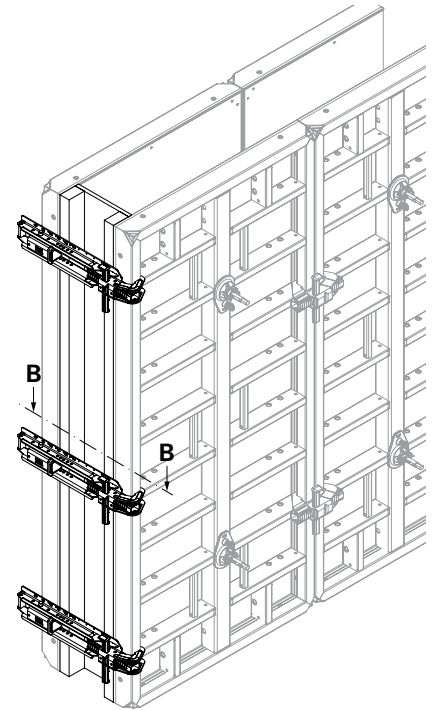

Fig. B10.04
- Perm. fresh concrete pressure 60 kN/m2 (Fig. B10.04)